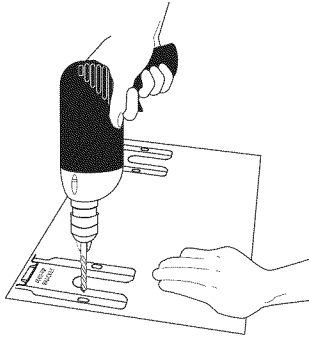

Fig 21
3. **Drill Pilot Holes & Fasten Bracket** - Drill 1/8" pilot hole where screws are to be located (Fig. 21). If bracket is to be mounted to the wall, drill pilot hole at an approximate 20° downward angle. If bracket is to be mounted to masonry or ceramic floors, drill 3/16" pilot hole 1-3/4" deep. The screws provided may be used in wood or concrete material. Use 5/16" nut-driver or flat head screwdriver to secure the bracket in place.